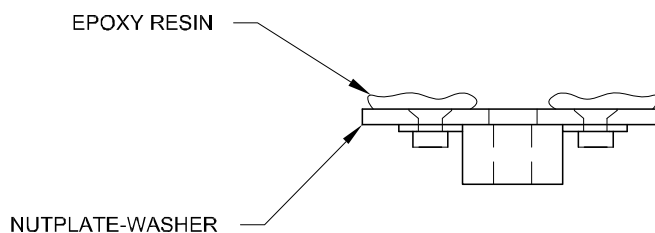

Figure A-17 Nutplate Washers
14. Apply epoxy resin to the flat side of the nutplate washers, see Figure A-17.